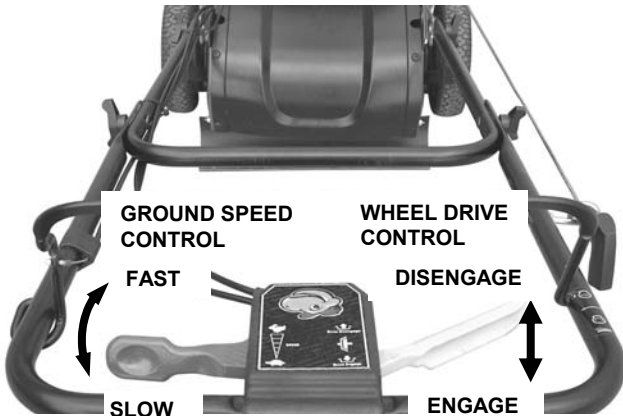

FIGURE 2.5
2. Move ground speed control to the desired speed position. See Figure 2.5.
3. Squeeze wheel drive control against handle to engage wheel drive and propel mower forward. Forward speed can be adjusted while mower is moving by changing position of ground speed control. See Figure 2.5.